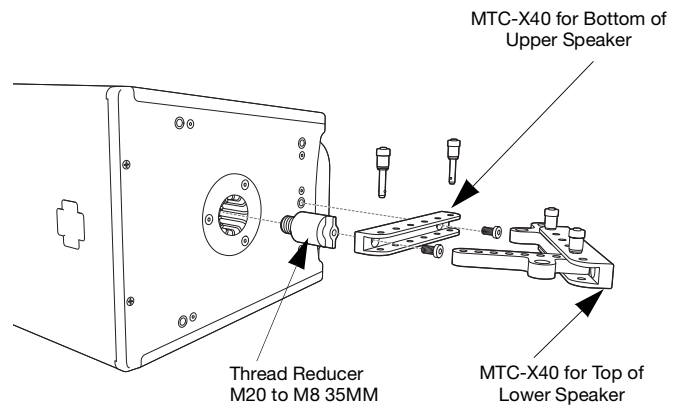

Figure 52: Attaching MTC-X40 to Bottom of Cabinet Requires Use of Thread Reducer M20 to M8 35MM
**NOTE:** Using multiple MTC-X40 Top Channel Links in a multi-loudspeaker configuration requires the use of the Thread Reducer M20 to M8 35MM on the bottom of each loudspeaker to which an MTC-X40 will attach (Figure 52).